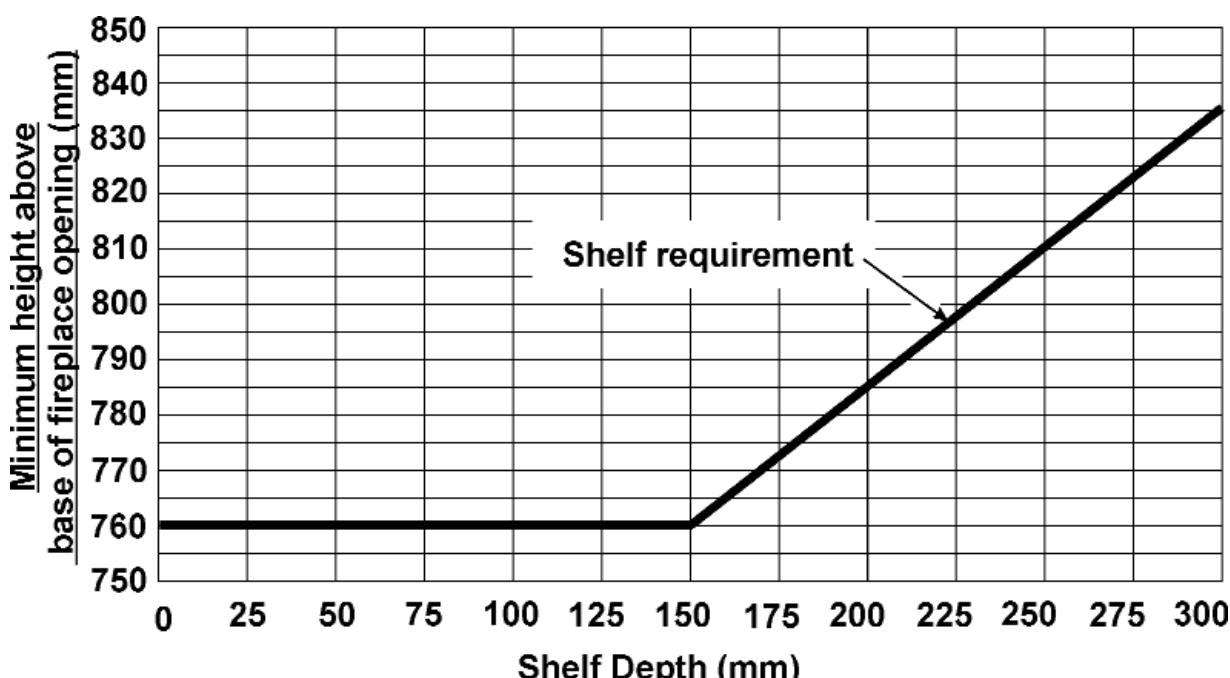

Figure 1. Combustible shelf clearances.
Do provide a minimum clearance as shown in figure 1 above the hearth to any shelf made of wood or other combustible material.
- *For a shelf deeper than 150mm:* 760mm + 12.5mm for every 25mm depth over 150mm (See Figure 1).